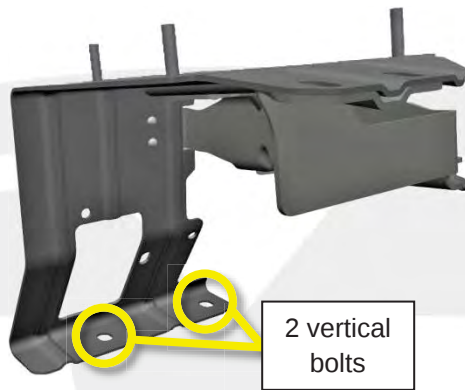

Figure 12
- If the bracket is a 1-piece design and is secured to the vehicle by 2 vertical bolts (Figure 12), remove and discard the bolts, remove and discard the bracket, and then skip to step 21.
NOTE: Some vehicles that had a 1-piece fuse box bracket (Figure 12) might not have a hole through the bulkhead. If the vehicle does not have an exposed hole through the bulkhead, skip to step 23.